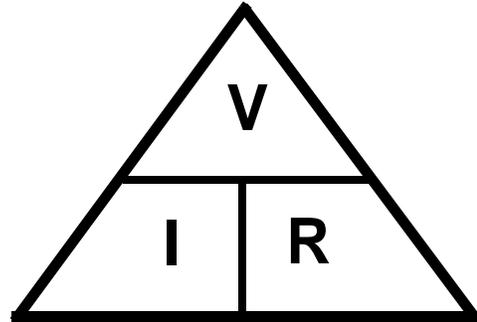

Figure 7.45
- Those who were traumatized by algebra can represent Ohm's law as a triangle. When using the triangle, cover the value to be found, and the two values left exposed signify how to obtain that value. See Figure 7.45.